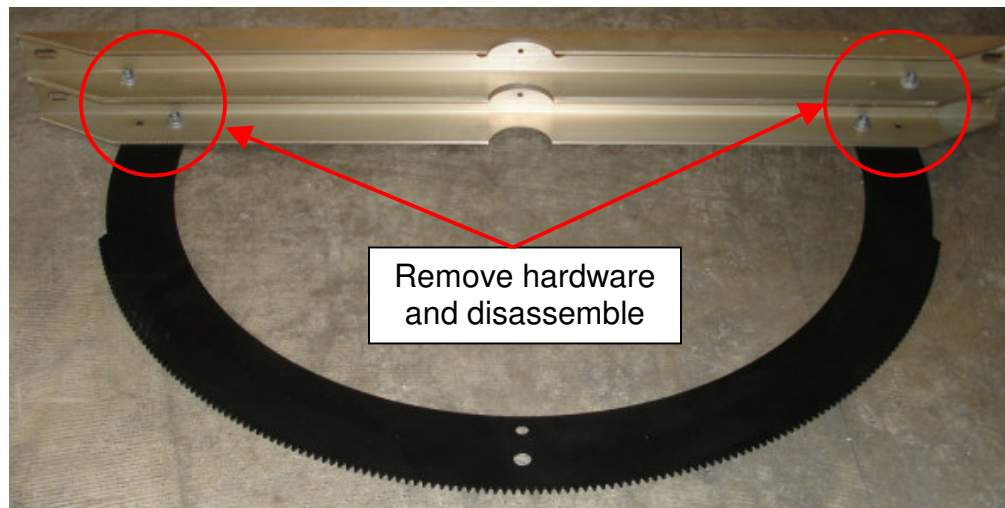

Figure 4
4. Remove the Tracking Gear from the two Solar Panel Mounting Channels (keep the hardware for later use). See Figure 4.